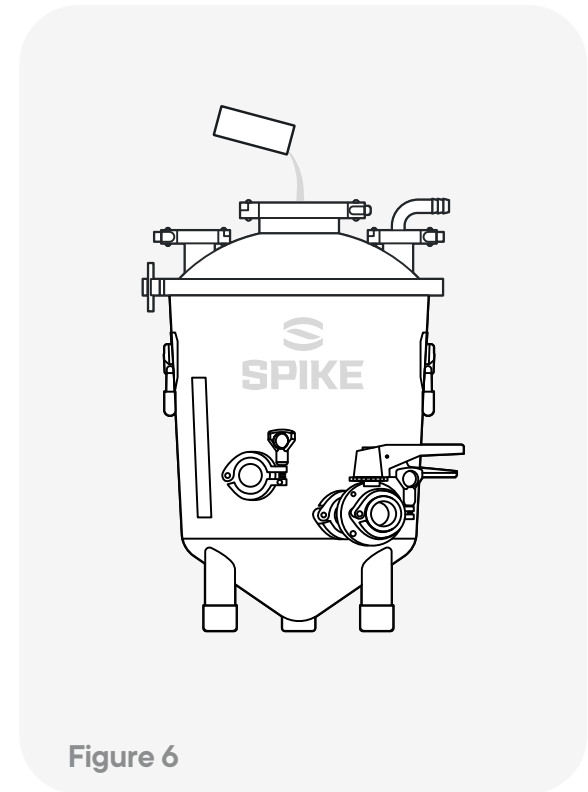

Figure 6
3. Add your yeast through the 4" port once the temp of your wort is between the recommended temperature range for your yeast. (see **Figure 6**)